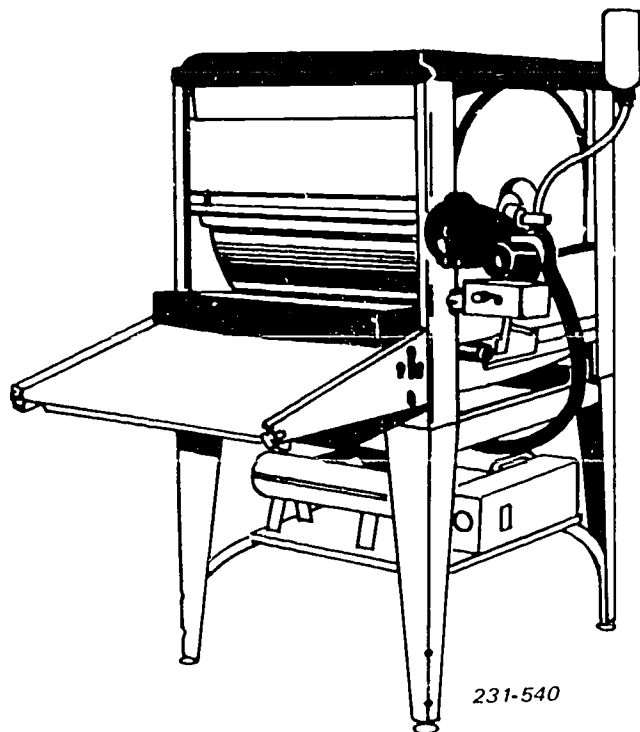

Figure 4-2. Pakonomy print dryer.
**The Pakonomy Print Dryer, Model 26W.** The Pakonomy Print Dryer, shown in figure 4-2, is typical of the print dryers found in base laboratories. Let us discuss its operation as an example of dryer operation.